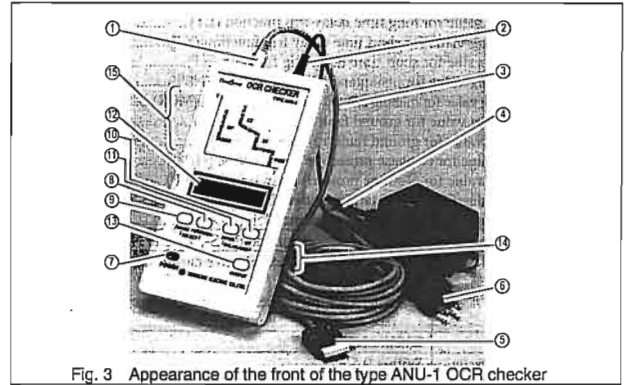
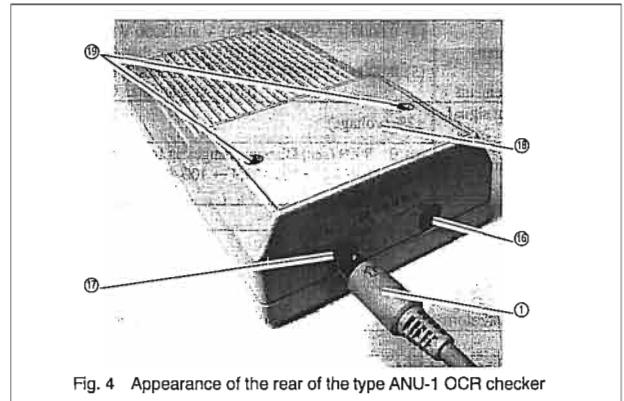
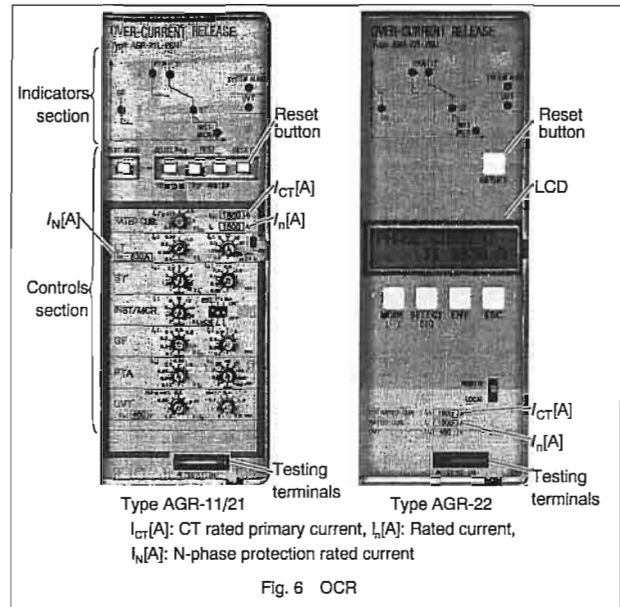

Fig. 3 Appearance of the front of the type ANU-1 OCR checker
Fig. 4 Appearance of the rear of the type ANU-1 OCR checker
Fig. 6 OCR
Parts names and functions of the OCR checker are given below. Figs. 3 and 4 show the appearance of the OCR checker.
- ③ Signal cable (approx. 3 m): A cable connecting between the OCR and the OCR checker. The OCR checker gives the output for power and signals to the OCR and receives the trip signal and pretrip alarm signal from the OCR via this cable.
- ④ Power cord (approx. 2 m): A cord used to supply power to the OCR checker. The external power voltage is converted into 9 VDC by the AC adaptor provided in the middle of the cord, and then enters the OCR checker.
- ⑤ Signal connector (square type): A signal cable connector for the OCR.
- ⑥ Power plug: A power cord plug for the power outlet.
- ⑦ POWER switch: A switch used to turn ON/OFF the OCR checker.
- ⑧ FUNCTION switch: A switch used to select a measurement item.
- ⑨ PHASE switch: A switch used to select an output phase.
- ⑩ UP switch: A switch used to increase the output signal value.
- ⑪ DOWN switch: A switch used to decrease the output signal value.
- ⑫ LCD: A part that displays the selected measurement item, output phase, output signal value, measured output time, and other information.
- ⑬ OUTPUT switch: A switch used to turn ON/OFF the output signal. When the output signal is OFF, the output signal value indicated on the LCD (see Fig. 4) blinks. If the output signal is turned ON, the indicated output signal value is illuminated.
- ⑭ Output signal check port (with a lid): The figure shows this port with the lid removed. Insert a connector from an instrument into the port and check the output signal value (voltage). For further information, see "VI. Procedure for Checking the Output."
- ⑮ LED indicators: The LED indicator for the selected measurement item blinks. It is illuminated if the trip signal is detected.
- ⑯ Power connector socket: A socket for the power connector (round type).
- ⑰ Signal connector socket: A socket for the signal connector (round type).
- ⑱ Battery lid: Retained with screws.
- ⑲ Battery lid screws: 2 pieces of M2.6 × 12
- (1) Open the ACB and turn off an upstream breaker to isolate the ACB main and control circuits from any power.
- (2) If the ACB is of draw-out type, draw out the breaker body to the TEST position.
- (3) If the ACB has the undervoltage trip device (UVT), make sure existing UVT control power cables are not energized, unplug the cables and then connect the UVT power to the control circuit terminals shown in Fig. 3.
- (5) Make sure there are no indications on the LEDs and LCD of the OCR checker and connect the OCR checker to the OCR using the signal cable as follows:
Plug the square signal connector (Fig. 7) face up into the OCR testing terminal port (Fig. 6) and plug the round signal connector (① in Fig. 4) into the signal connector socket (⑩ in Fig. 4) with the arrow mark facing down.
- (6) Make sure there are no indications on the LEDs and LCD of the OCR checker and prepare the power supply to the OCR checker as described in the next step. If the OCR checker is supplied with external power, insert the round power connector (② in Fig. 3) into the power connector socket (⑮ in Fig. 4) and insert the power plug (⑤ in Fig. 3) into an outlet. (When rated voltage of OCR checker is AC200-240V, connect the power plug adapter (⑧ in Fig. 8), between power plug and an outlet shown in Fig. 8.) If a battery is used to supply power to the OCR checker, loosen the battery lid screws (⑯ in Fig. 4), remove the battery lid (⑰ in Fig. 4), insert four AA batteries in the battery holder, and reinstall the battery lid and the battery lid screws.
- (7) Check the rated current value  $I_n$ [A], the primary CT rated current value  $I_{CT}$ [A], and if with the N-phase protection, the rated current value  $I_{N}$ [A] for the N-phase protection. Read each current value indicated on the controls section of the OCR shown in Fig. 6. To check the N-phase protection pickup current of the Type AGR-22 OCR, turn ON the OCR checker to supply control power to the OCR, and then display the current value on the LCD using the switches located on the OCR. For the Type AGR-22 OCR, also display the setting scale value for each tripping characteristic on the LCD. For using the switches located on the OCR, refer to the instruction manual for the AR type air circuit breaker.
- (8) The test includes the procedure for changing the set values on the OCR. To prevent the pre-test settings from being forgotten after the test, it is recommended that you make a note of those settings. For this purpose, use the form given in "Table 4 OCR settings before test."